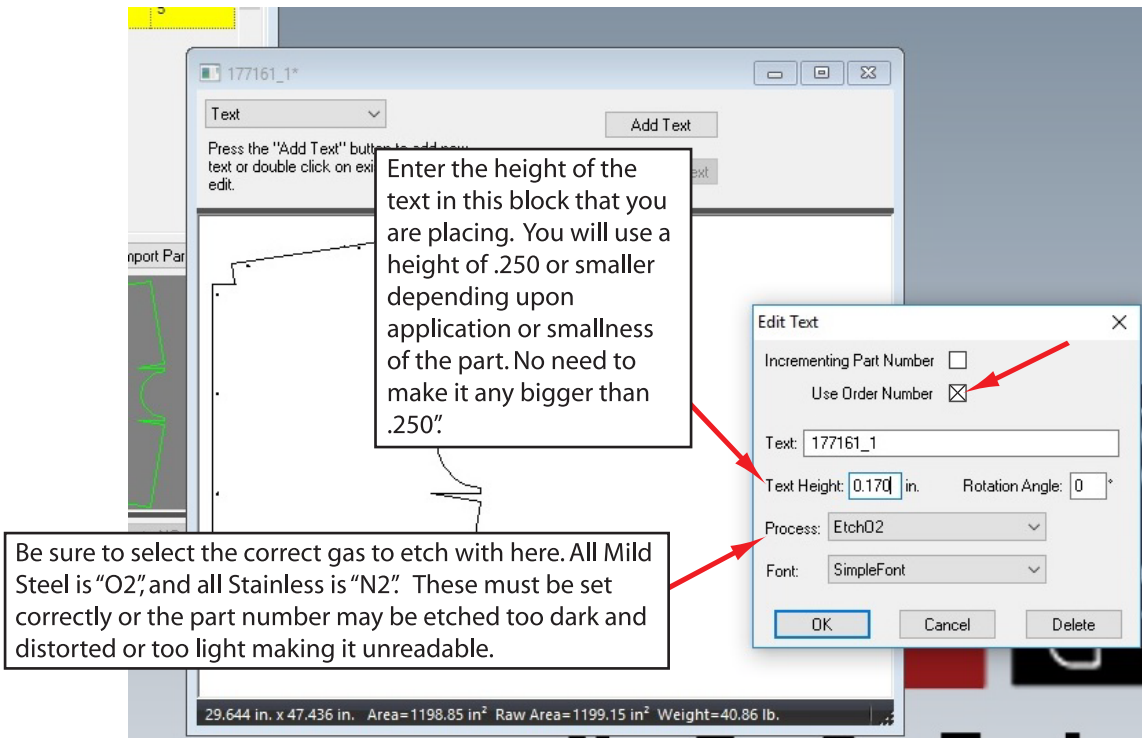
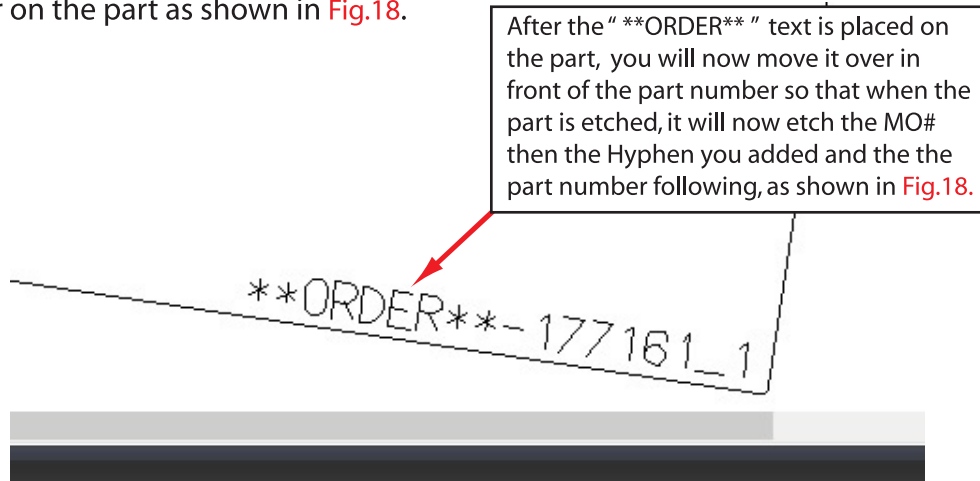

Fig.16
Fig.18
There are a couple other things you'll need to enter or select, see notes in Fig.16 below.
- 22) Now we need to add the "Order Number" to the text etching. To do this we will click the "ADD TEXT" button again, except this time you will click the "USE ORDER NUMBER" box ( shown in Fig.16) and then click "OK" to apply the extra added text. This will place the code word onto the part for the software to identify that it needs to insert the MO# you entered in place of the code word so it will be etched. The only other thing you need to do is place the "**\*\*ORDER\*\***" code word text in front of the part number on the part as shown in Fig.18.
- 23) After all text is placed, now go back and check the "PROCESS" and see if the text process is the correct one for the type of steel you are cutting, as mentioned earlier, Mild Steel is "CUT" (black) and Etching is "O2" (Red), or Stainless "CLEAN CUT" (brown) and Etching "N2" (lime green). If the text is NOT the correct gas or selection, then simply pull down the processes menu, click on the one you want to change it too, and then click on the text you want to change. See Fig.16 for menu selection. Now **SAVE your work and close the part window.**